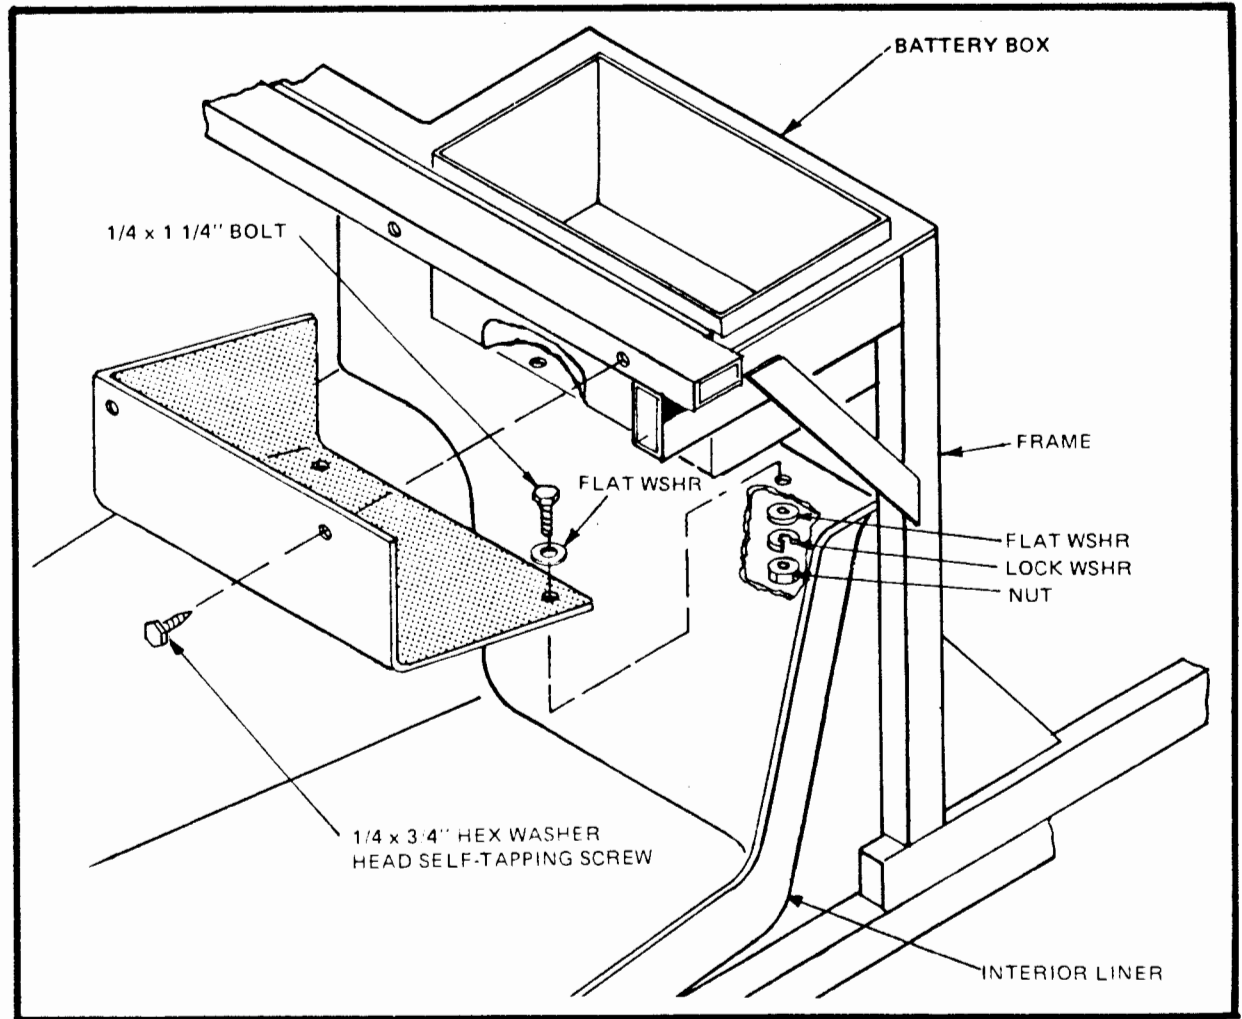

Figure 31
- Drill 2 holes, $1/4$ ", through the side of the extension and the side of the battery box. Secure with $1/4 \times 1\ 1/4$ " bolts with 2 flat washers, lock washer, and nut. (Figure 31)